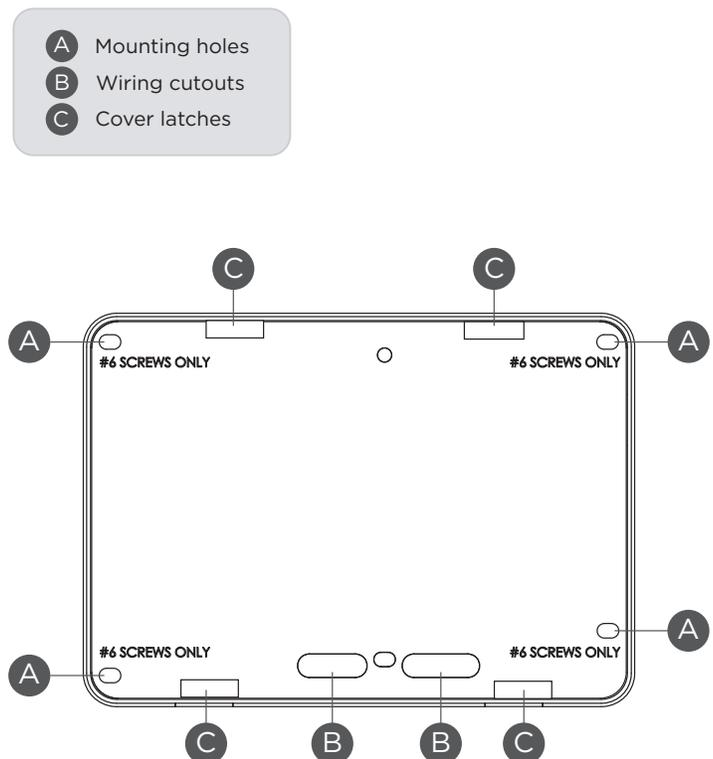

Figure 2: Mounting Hole Locations
1. Route the keypad wires through the cutouts in the base. See Figure 2.